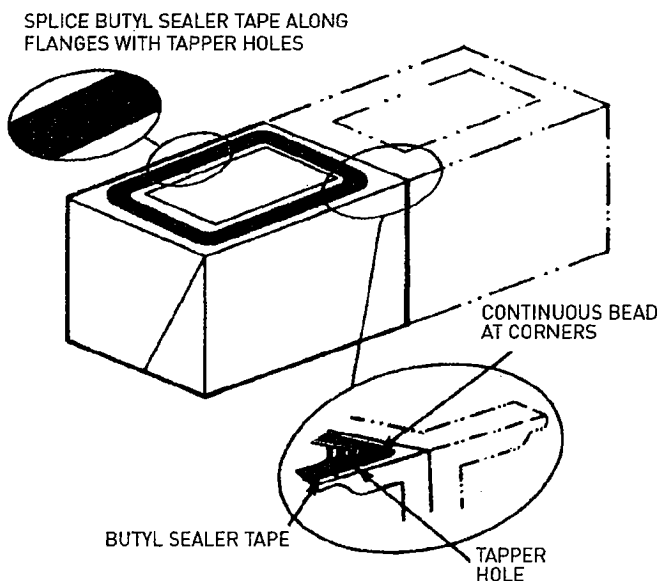

Figure 2
3. Apply the 1" flat butyl sealer tape around the periphery of the top flange of the basin-fan section as shown below in Diagrams I, J or K (See Figure 2). This butyl sealer tape must be centered directly over the centerline of the taper holes and on the centerline of the end flanges where there are no taper holes.